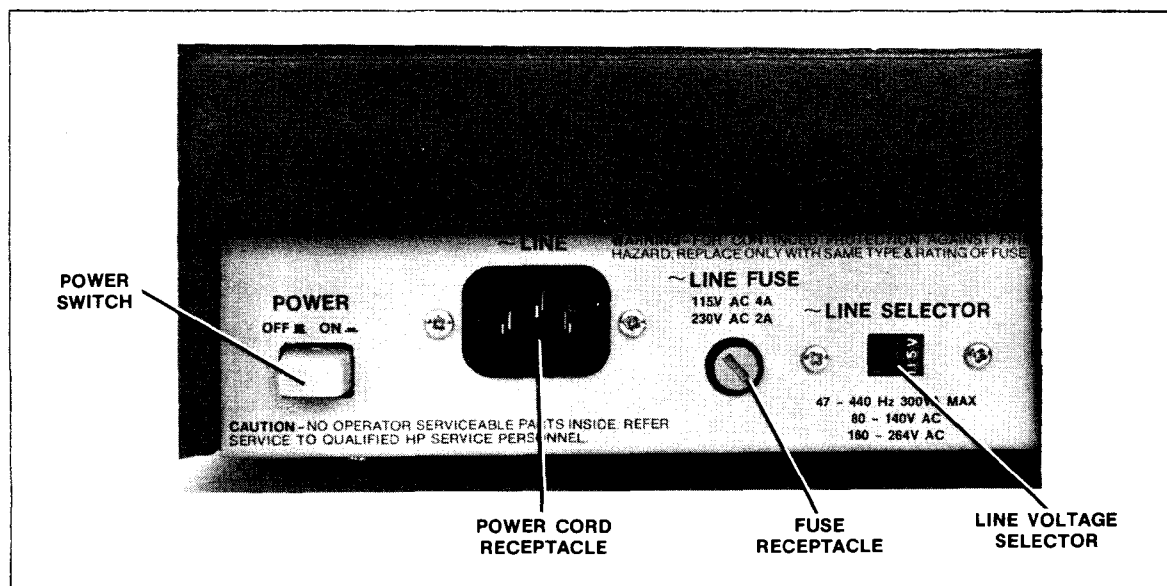

Figure 3-2. Rear Panel Controls
Before applying power to the HP 8451. Check that the power switch on the rear panel is in the off position (0). See Figure 3-2.
After the spectrophotometer software module has been properly installed, the line voltage range set, the correct fuse installed, and the sample compartment cleared, the HP 8451 power cable should be connected at the right rear of the instrument. The other end of the power cord should be plugged into the proper AC voltage source. Then turn on the power switch at the right rear of the instrument (shown in Figure 3-2).